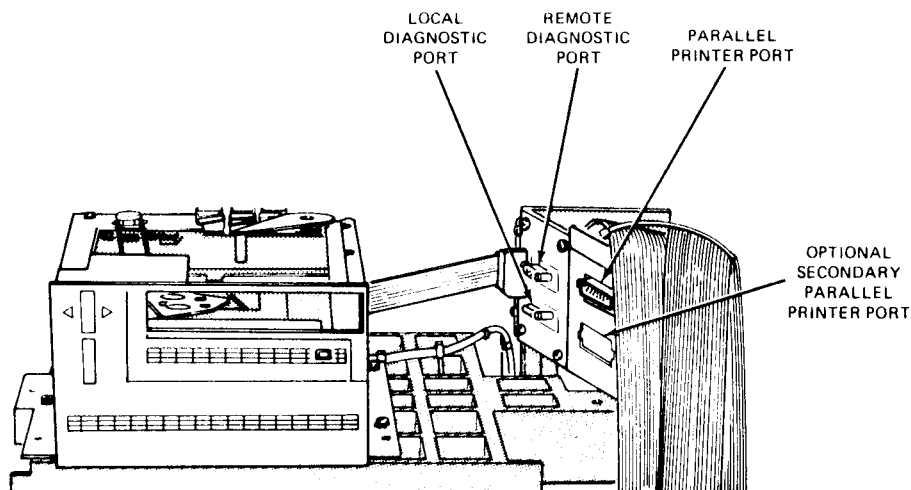

Figure C-1. Location of Parallel Printer Ports on Early Units
On early units, the parallel printer port(s), as well as the local and remote diagnostic ports, are located inside the MENTOR and to the right of the tape drive (see Figure C-1 below). To access these ports, the front and top panels must be removed.
6. Connect the printer cable(s) to the parallel printer port(s) (see Figure C-1).